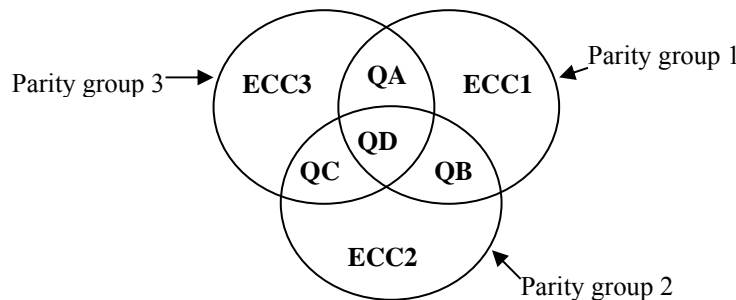

Figure 1-i: Venn diagram of error correction bit assignment.
**Requirements:** Set up one of your DIP switches to simulate seven bits of parallel data within a communication or storage system requiring error correction. The four least significant bits shall be the data bits  $Q_A$  through  $Q_D$ . ( $Q_A$  is the least significant bit.) The next three bits are error correction bits assumed to have been derived from the Venn diagram of Figure 1-i with each circle having even parity.  $ECC_1$  is the fifth significant bit,  $ECC_2$  the sixth, etc. Assuming that no more than one bit can be in error, devise a circuit that continuously displays the correct (or corrected) hexadecimal representation of the data bits  $Q_A$  through  $Q_D$  on a LED seven segment display. We have preprogrammed a CPLD board that it will display the hexadecimal value of four bits connected to it. (**BE CAREFUL not to “HOT PLUG or UNPLUG” these boards.** You can kill the CPLD doing that and then a TA has to program a new one.) See discussion below for the wiring of that board. Also light a separate LED if there is an error in any of the seven bits.
The data bits are divided into groups, and error correction bits are assigned to each group to give the group a particular *parity*. A group is said to have “even” parity if it has an even number of '1s', and odd parity if the number of '1s' is odd. For four bit parallel data, there is a way to add three correction bits to form three parity groups from which single bit errors can be both detected and corrected. Figure 1-i shows the simple Venn diagram on which the technique is based.